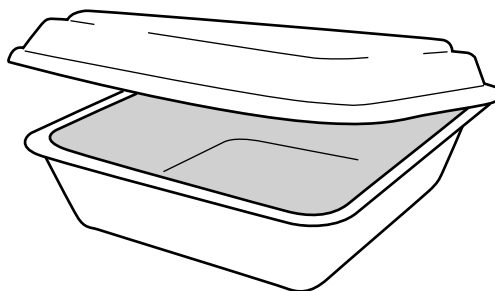

Fig. 3
- 5 Fig. 3 shows a container used in a fast food outlet.